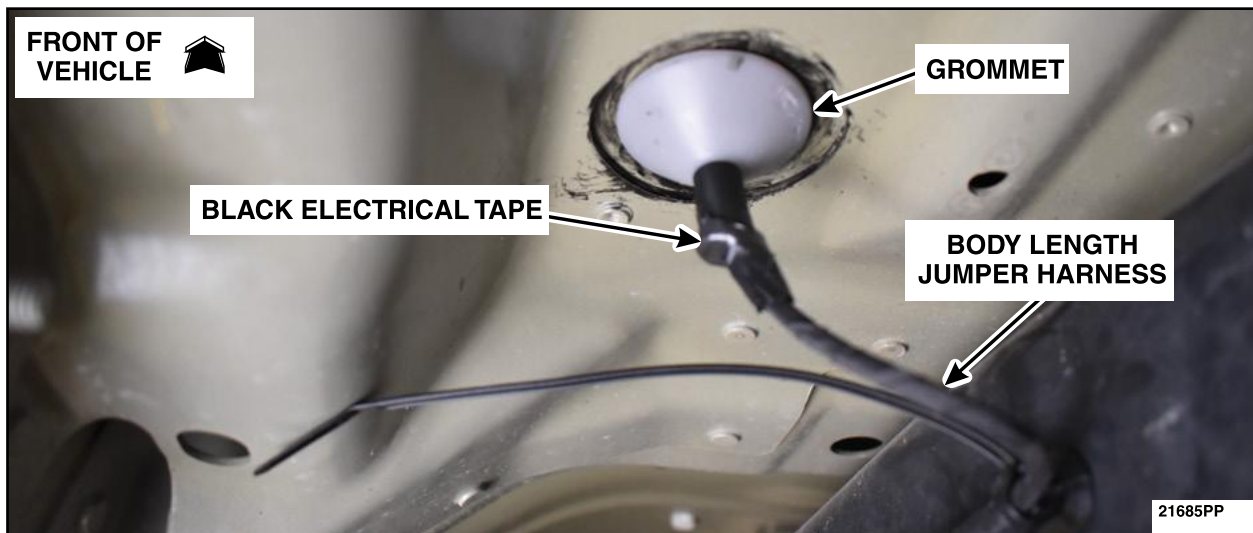

FIGURE 42
46. Install the grommet and route the Body Length Jumper Harness. See Figure 42.